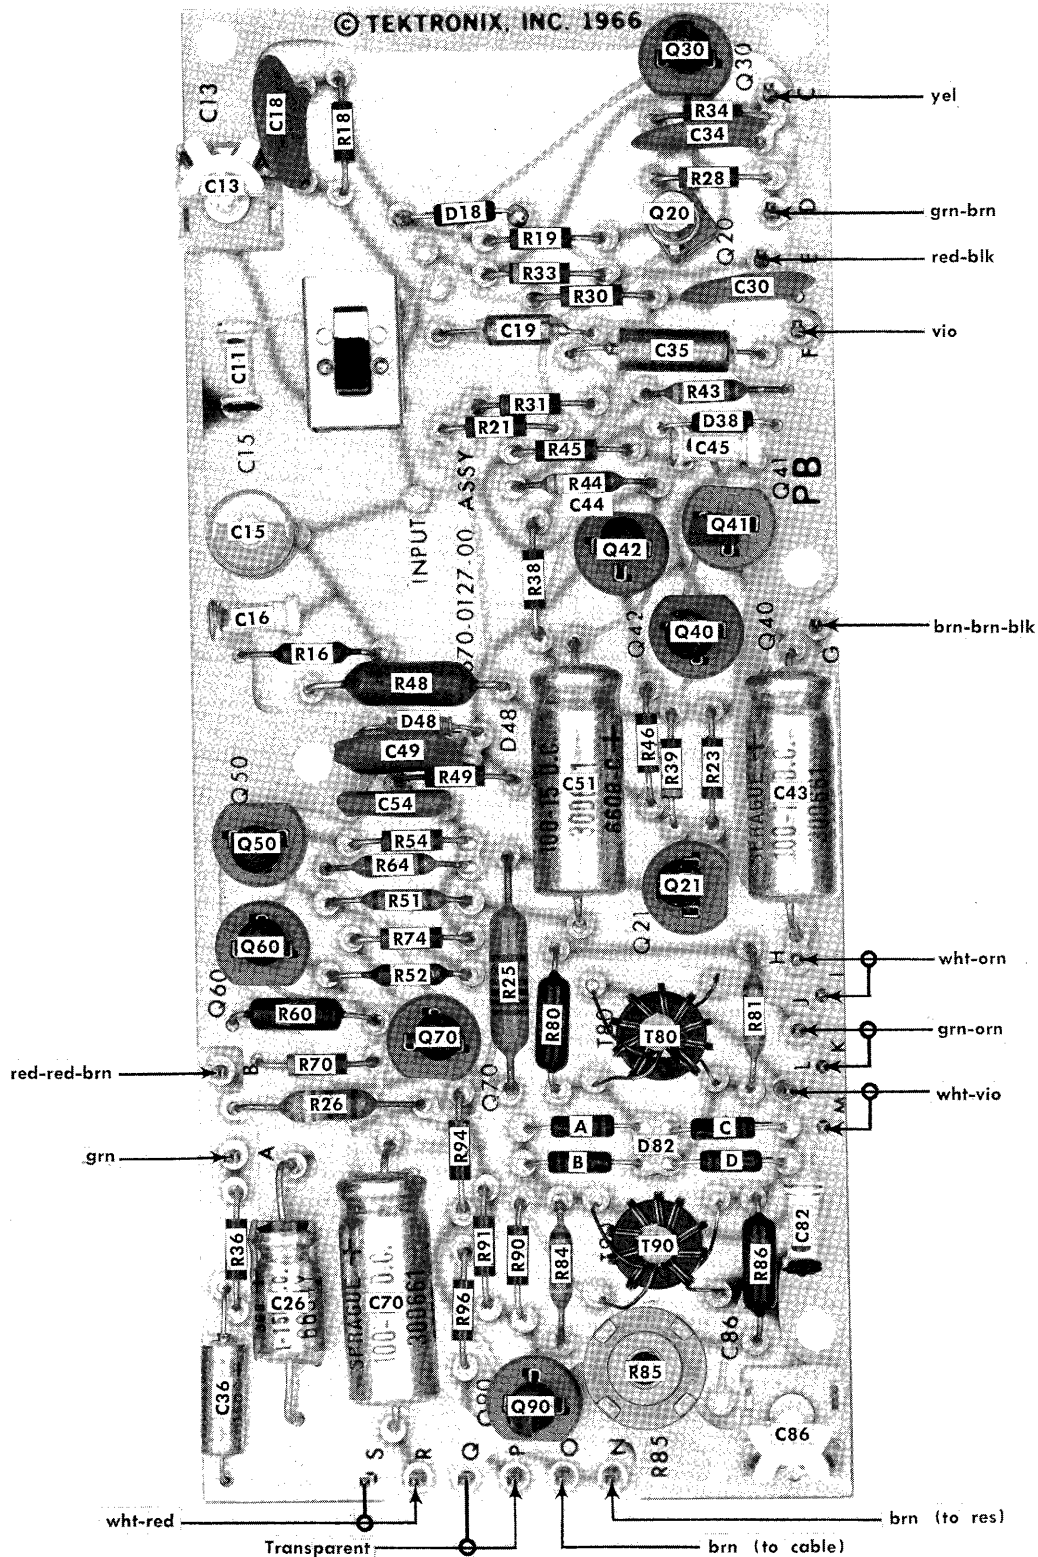
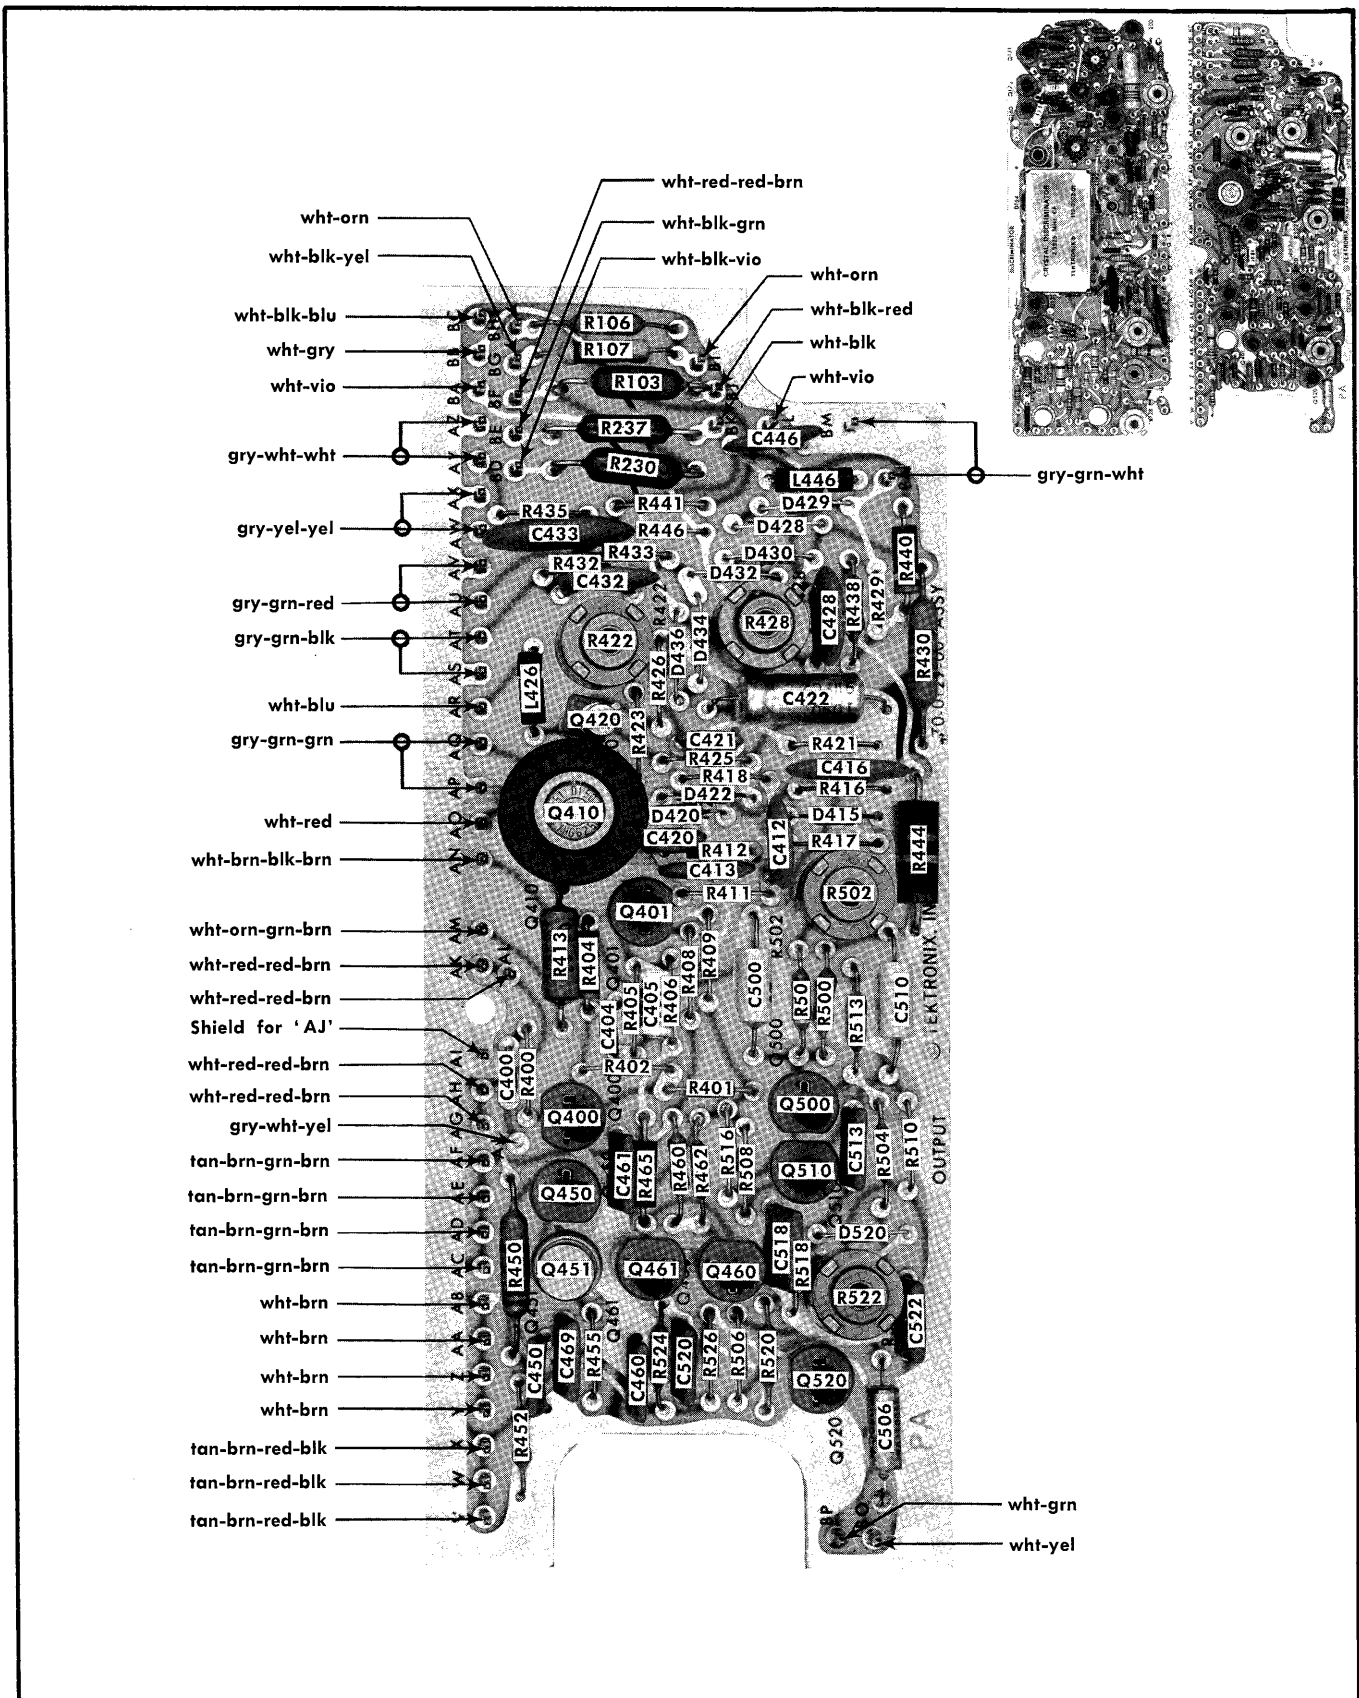

Fig. 4-4. Input Amplifier and 1st IF Mixer circuit board.
Fig. 4-7. Output Driver, Output Amplifier, Calibrator and Power Distribution circuit board.
4. Lift the VOLTS/CM switch assembly up and back to clear the V/CM $\div$ 100 linkage, then slide the board out from under the switch assembly. Figs. 4-4 through 4-7 should be used to identify the pin connectors with the wiring color code when replacing the pin connectors.
Circuit Boards. Figs. 4-4 through 4-7 show the individual boards, with the circuit numbers for each component. In addition, the circuit board sections on the diagrams are outlined in blue, to aid in locating individual components.
Check circuit voltages and waveforms against those shown on the diagrams of Section 9 of this manual. Fig. 4-4 through Fig. 4-7 provide board wiring and component layout information. If the trouble can not be isolated to a particular circuit, start with the power distribution circuit, then proceed consecutively from one circuit to the next.